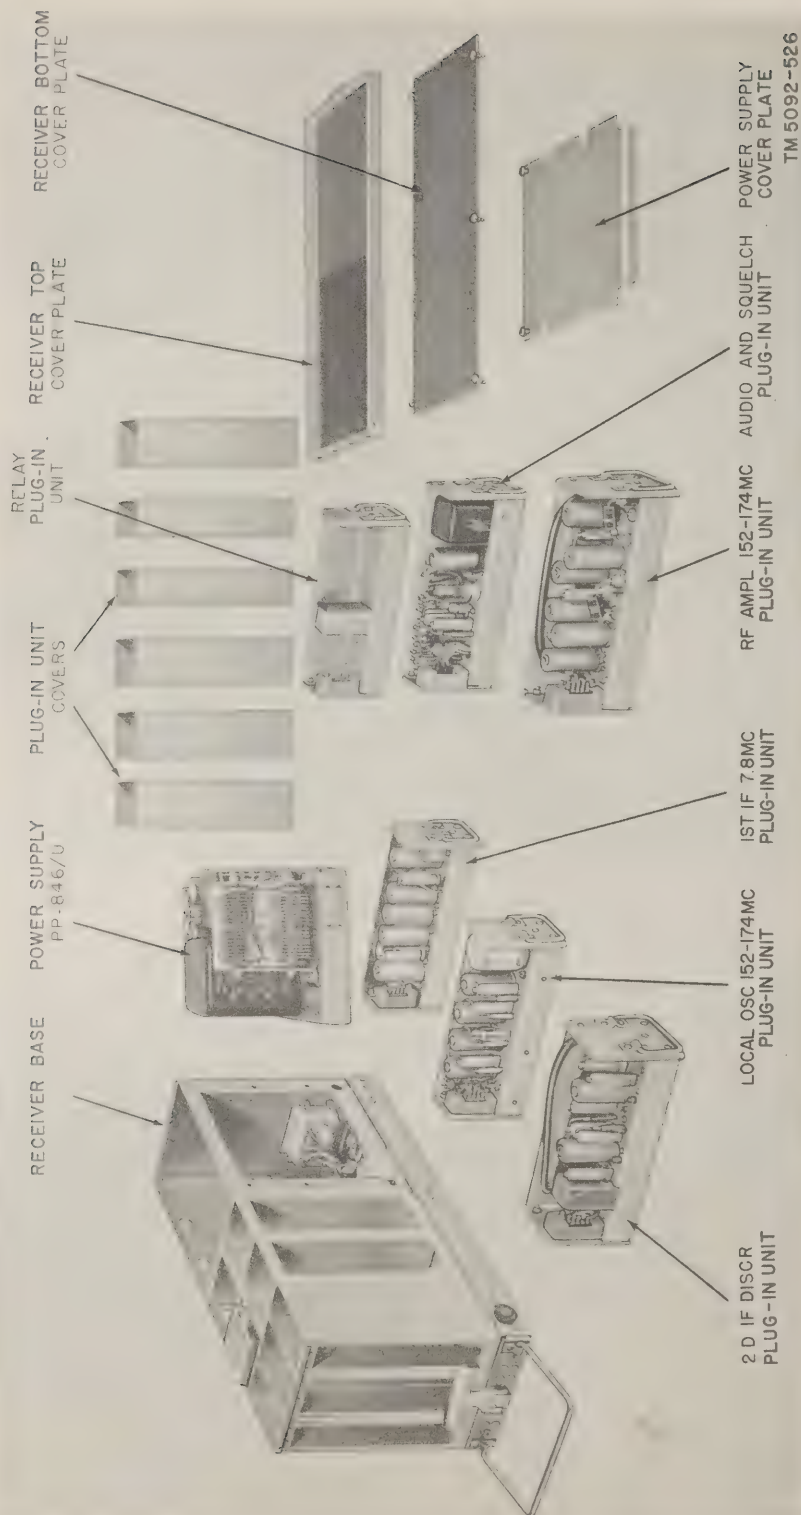

Figure 4. Radio Receiver R-394/U, components disassembled.
a. General. Radio Receiver R-394/U requires a plug-in power supply and an external control unit in order to operate. The power supply provides filament and B+ voltages. The control unit turns the receiver on and distributes the audio output to a handset and/or speaker. The electrical connection to the particular radio set in which it is installed is accomplished by a single connector on the rear panel. A locking handle on the front panel controls a shaft passing through the receiver from front to rear. The rear end of this shaft is attached to a cam head which secures the receiver to the case in which it is used. A handle is provided on the front panel for pulling the receiver from the radio set case. Eight test points are provided at the front for checking the operation of the receiver and for alignment purposes. The chassis or receiver base assembly contains the following subassemblies (figs. 4 and 5):
- (1) RF AMPL 152-174 MC plug-in unit.
- (2) LOCAL OSC 152-174 MC plug-in unit.
- (3) 1ST IF 7.8 MC plug-in unit.
- (4) 2ND IF DISCR plug-in unit.
- (5) AUDIO & SQUELCH plug-in unit.
- (6) RELAY plug-in unit.
- (7) Selectivity filter.
- (8) Power supply (par. 5).
b. Receiver Base Assembly (fig. 4). The receiver base assembly is a honey-combed assembly with eight compartments or cells into which the eight units of the receiver are fitted. Except for the selectivity filter, Z251, which is wired to the receiver base, all of these units are plug-in units. These units are connected into the base when plugged into the proper compartment. The plugs and jacks on the receiver base are so arranged that the plug-in units fit only in the proper cell. The power supply is fastened to the receiver base by six screws. The power supply connector, P251, is connected to the power supply from the bottom side of the receiver. A handle on this plug aids in connecting and disconnecting the plug.
a. Before installing the receiver, check it for damage by removing the cover plates and examining the internal parts. Remove the top cover by releasing the latch at the rear of the receiver (fig. 7). With the top cover off, all the plug-in units can be removed. Take off the shield on each unit (fig. 4) and examine it for the items listed below: